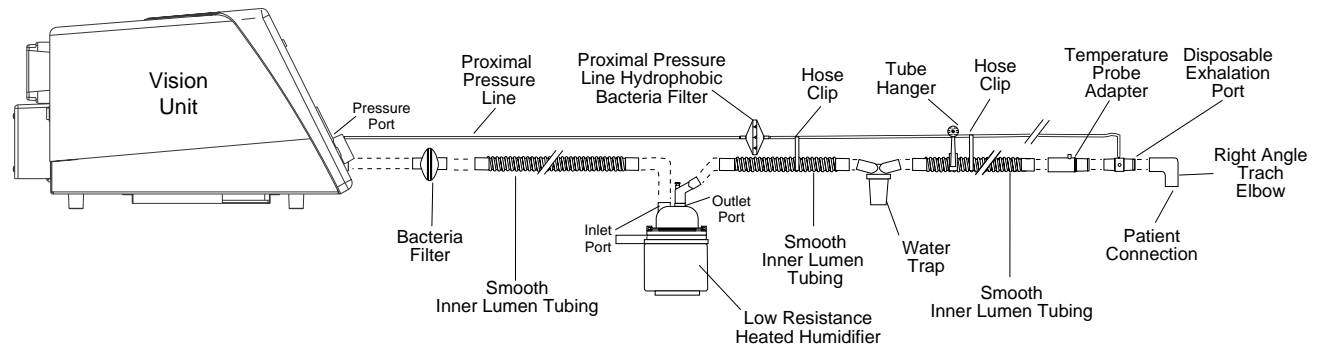

Figure 15-3. Recommended Invasive Circuit Configuration.
- Figure 15-3 shows the recommended invasive circuit configuration.